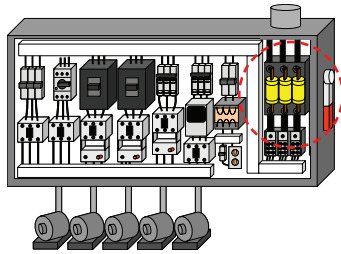
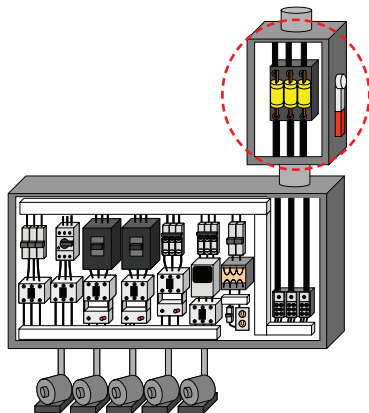

Figure 1A. Main overcurrent protective device is a part of the equipment.
Figure 1B. Overcurrent protective device is not part of the equipment and located on the lineside.
SCCR may be an attribute of a single electrical device, such as a contactor, or of an electrical apparatus which has multiple devices in an enclosure, such as an industrial control panel. An OCPD that is specified to help an apparatus or device achieve an SCCR may either be integral to the apparatus, such as the main OCPD for an industrial control panel, as in Figure 1A, or it may be on the lineside of the apparatus, physically separate, as in Figure 1B.
1. The main OCPD is part of the equipment (see Figure 1A). In this case, the equipment manufacturer includes the OCPD in the equipment and the SCCR marking states the SCCR rms symmetrical amperage and voltage.
2. The equipment does not have a main OCPD and it relies on a field installed OCPD device on the lineside (see Figure 1B). In this case, the SCCR marking states the SCCR rms symmetrical amperage, voltage, and required OCPD type, and amp rating (often stated as a maximum). For example, the SCCR marking may state “100 kA rms symmetrical, 480 V, and maximum 400 A Class J fuse.” This requires 400 amp or less Class J fuses to be field installed on the equipment's lineside in order to comply with the SCCR marking.